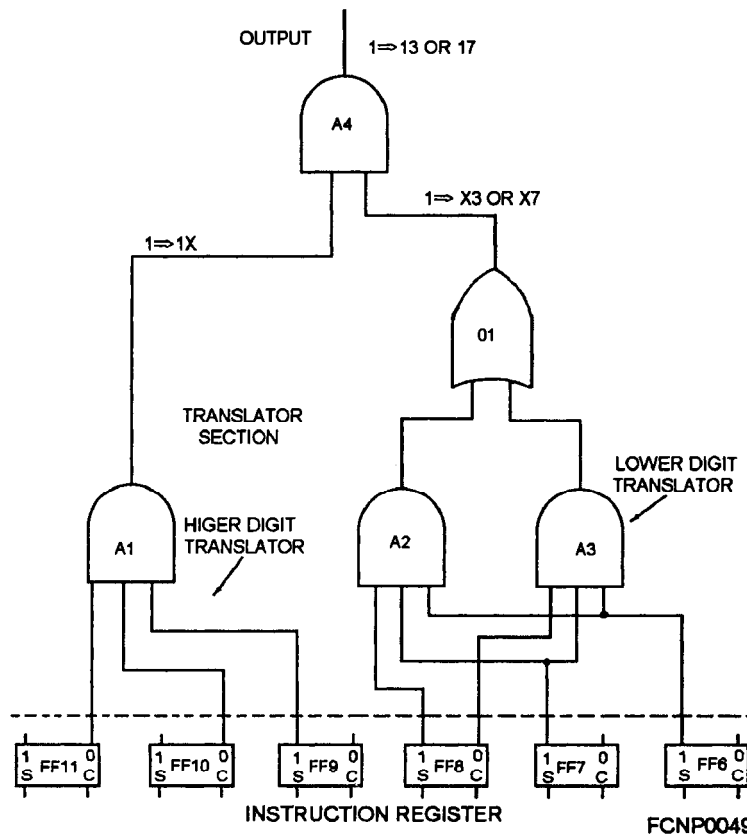

Figure 5-4—Example of instruction translation and execution circuitry.
**INSTRUCTION REGISTER.**— To translate and execute the instructions, the outputs of the instruction register are fed to logic circuits (**selectors** and/or **translators**) that are used to translate the binary codes into **commands** for the CPU to execute (fig. 5-4).